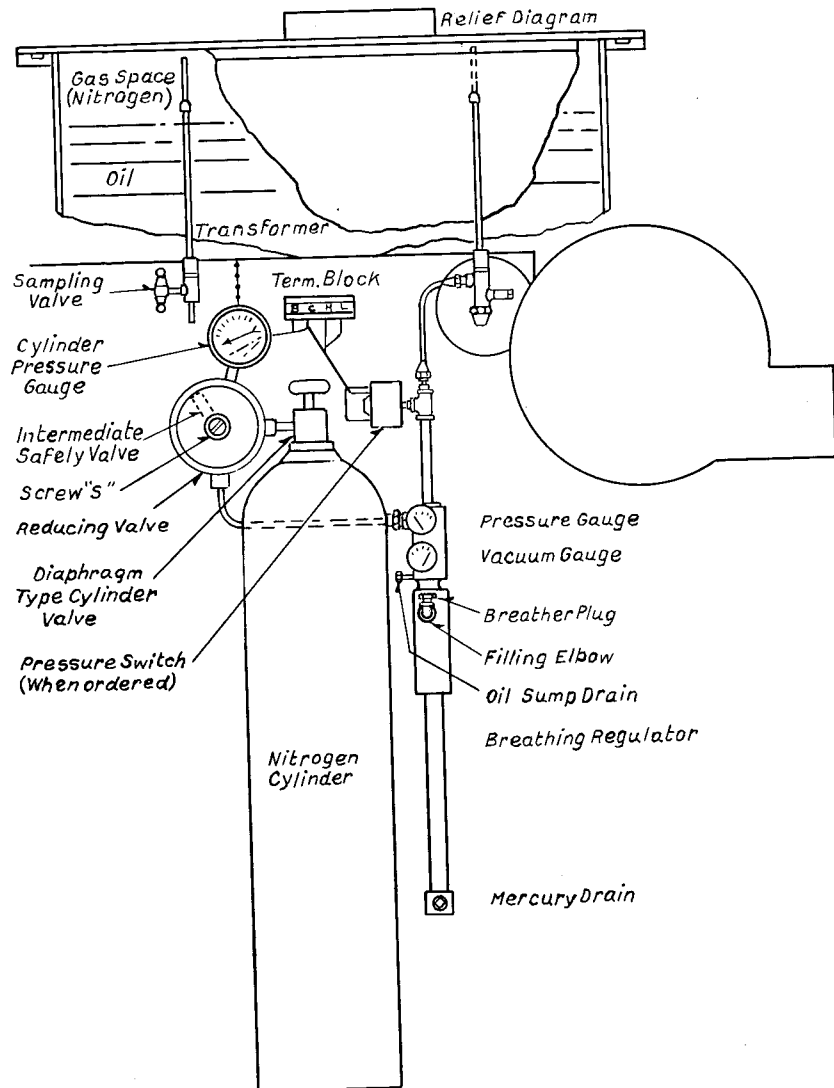

FIG. 3
A three-way shut-off valve with blow-out fitting, located above the breathing regulator, connects the breathing regulator to the gas space, above the transformer oil, through a pipe attached to the transformer tank. See Fig. 3. The
- (1) Shut-off (clockwise). This shuts off the gas space and connects the breathing regulator to the blow-out fitting. This position is used to seal the gas space, and also for testing the operating pressure of the breathing regulator.
- (2) Mid-position shown in Fig. 3. In this position of the valve, the gas space, the breathing regulator, and the blow-out fitting are connected together. This position is used when it is desired to blow-out the gas space, initially with dry nitrogen. In blowing out the
Deoxygenation or blowing out of the gas space may be accomplished by means of the deoxygenation fitting, Fig. 5, explained above, and the back-seating shut-off valve, Fig. 3.